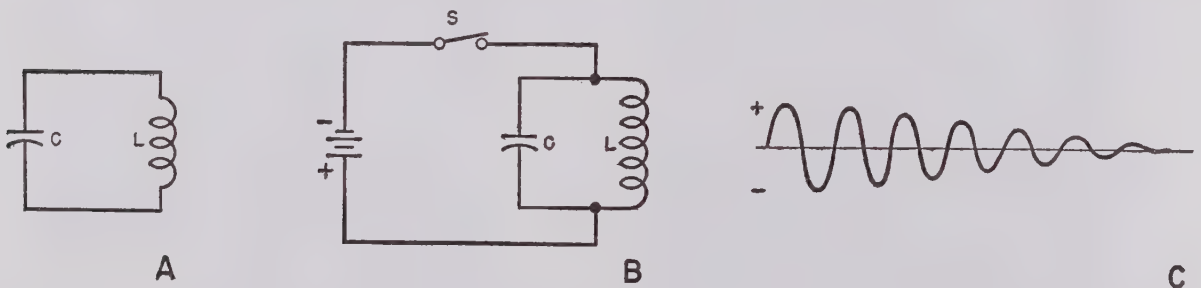

Figure 2. Electrical resonance.
- (1) Electrical circuits also will produce vibrations if given an *electrical* tap, producing signals at a frequency depending on their physical characteristics. This is the resonant frequency of the circuit (A, fig. 2).
- (2) The inductor and capacitor act electrically as a tuning fork does mechanically. A tuning fork, when tapped, starts vibrating mechanically. An electrical tap applied to the coil and capacitor sets them vibrating electrically. The electrical tap can be supplied by connecting the circuit across a battery with a switch in series, as in B. When the switch is closed for an instant, and then opened, an electrical vibration or a-c signal is produced for a time.
- (3) The coil and capacitor together comprise a circuit which is resonant at a
- (1) If the capacitance is large, it accumulates a large charge when the switch is closed and takes a *long time* to discharge. Therefore, the frequency of oscillation is comparatively low. If the capacitance is small, it accumulates a smaller charge and the capacitor discharges *faster*. Therefore, the frequency of oscillation is higher. When the coil has a large inductance, the capacitor takes more time to discharge through the coil, because of the greater opposition to current flow. The greater the value of either L or C , the lower the frequency will be; the smaller are L and C , the higher the frequency.
- (2) The more resistance in the coil, the more the oscillations are damped, and the faster they fall to zero. When the coil has a low resistance, less damping takes place, and the oscillations continue for a longer time before they die out.
a. DEVELOPMENT OF OSCILLATOR CIRCUIT. It is possible to produce undamped or continuous oscillations in the tuned circuit (B, fig. 2) if